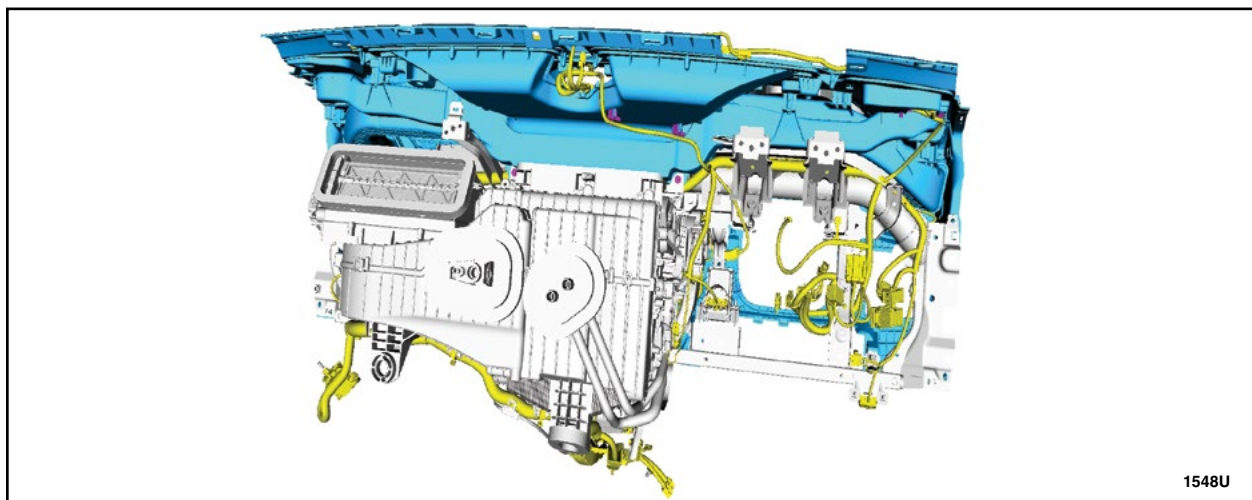

FIGURE 20
38. Remove and discard the instrument panel wire harness. See Figure 20.